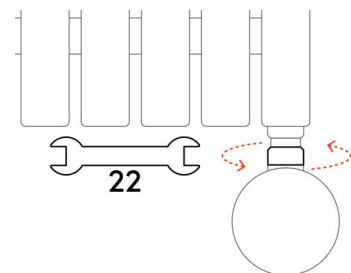

Figure 3 | Tighten element at main nut
5. Tighten the element at the main nut, using a size 22 spanner (**Figure 3**, right). Ensure the rubber O-ring, above the main nut, makes a firm seal between the radiator and the element. This prevents leakage after installation.